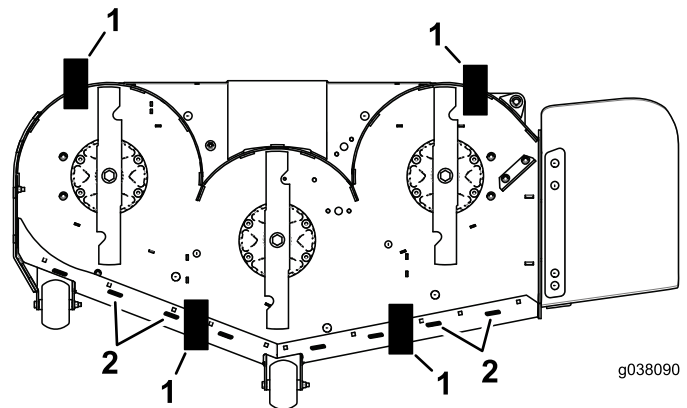

Figure 82
11. Place 2 blocks (see Block Height and Rake Table) under the rear edge of the cutting deck skirt; 1 on each side of the cutting deck (Figure 82).